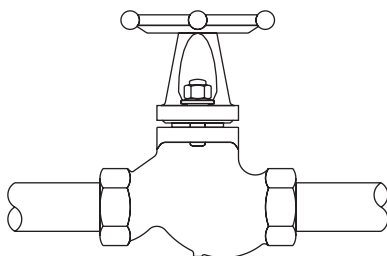
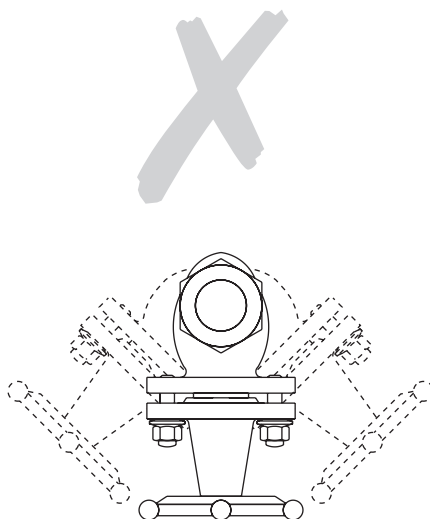

Fig. 2 Correct orientation for installation
Fig. 3 Incorrect orientation for installation
- 3.1** Install the valve in the direction of flow given by the arrow on the body. The preferred position is with the spindle vertical. The valve can be installed from the vertical to the horizontal plane (see Figure 2 opposite). **Do not mount the valve upside down (Figure 3).**